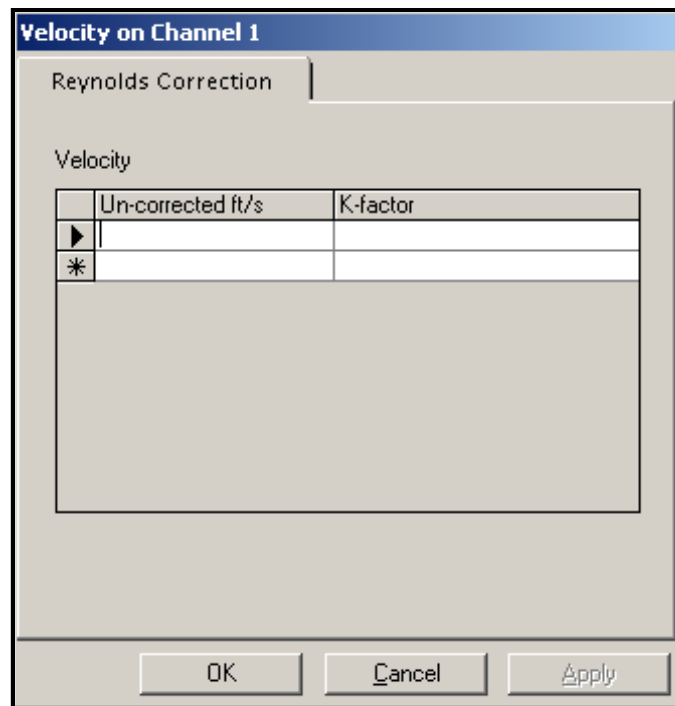

Figure 3-19: PanaView Velocity Correction Display
4. Click twice on Vel and the Velocity display appears (see Figure 3-19 below).